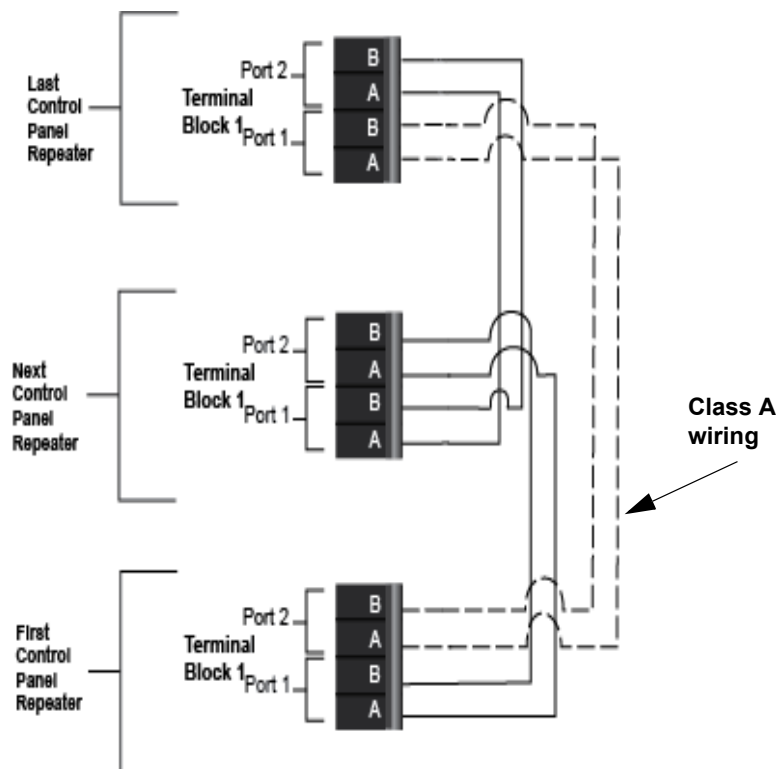
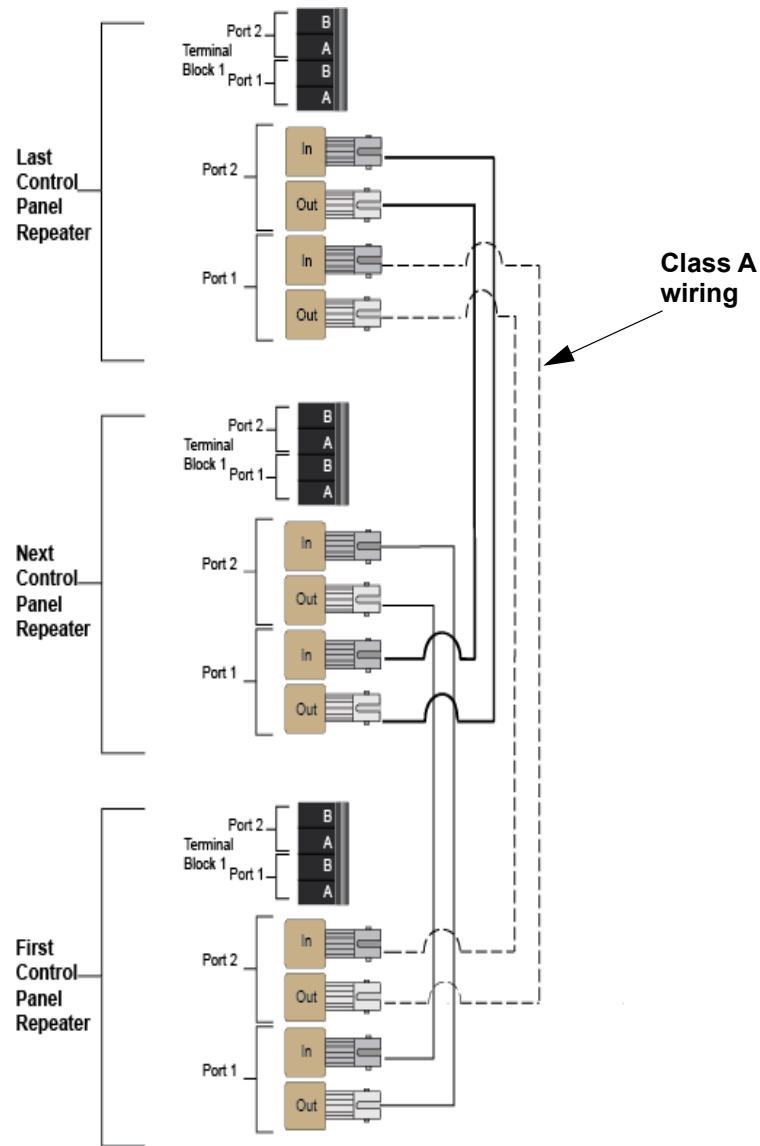
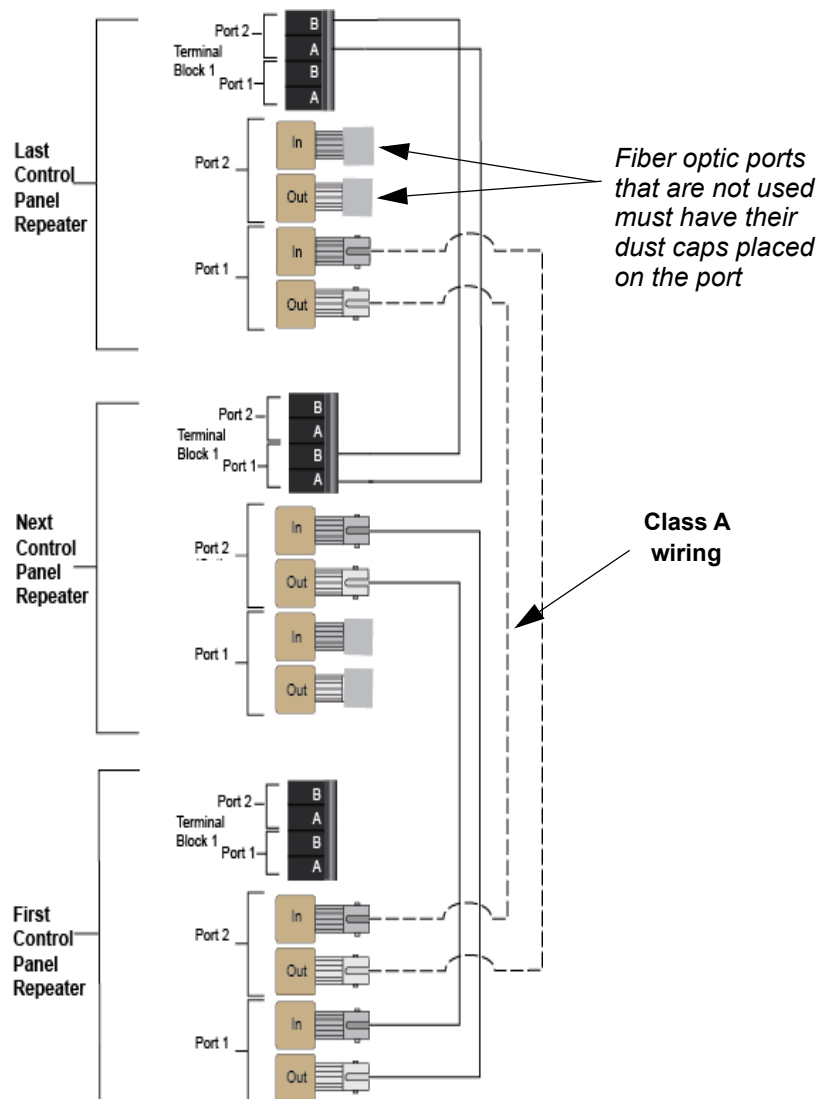
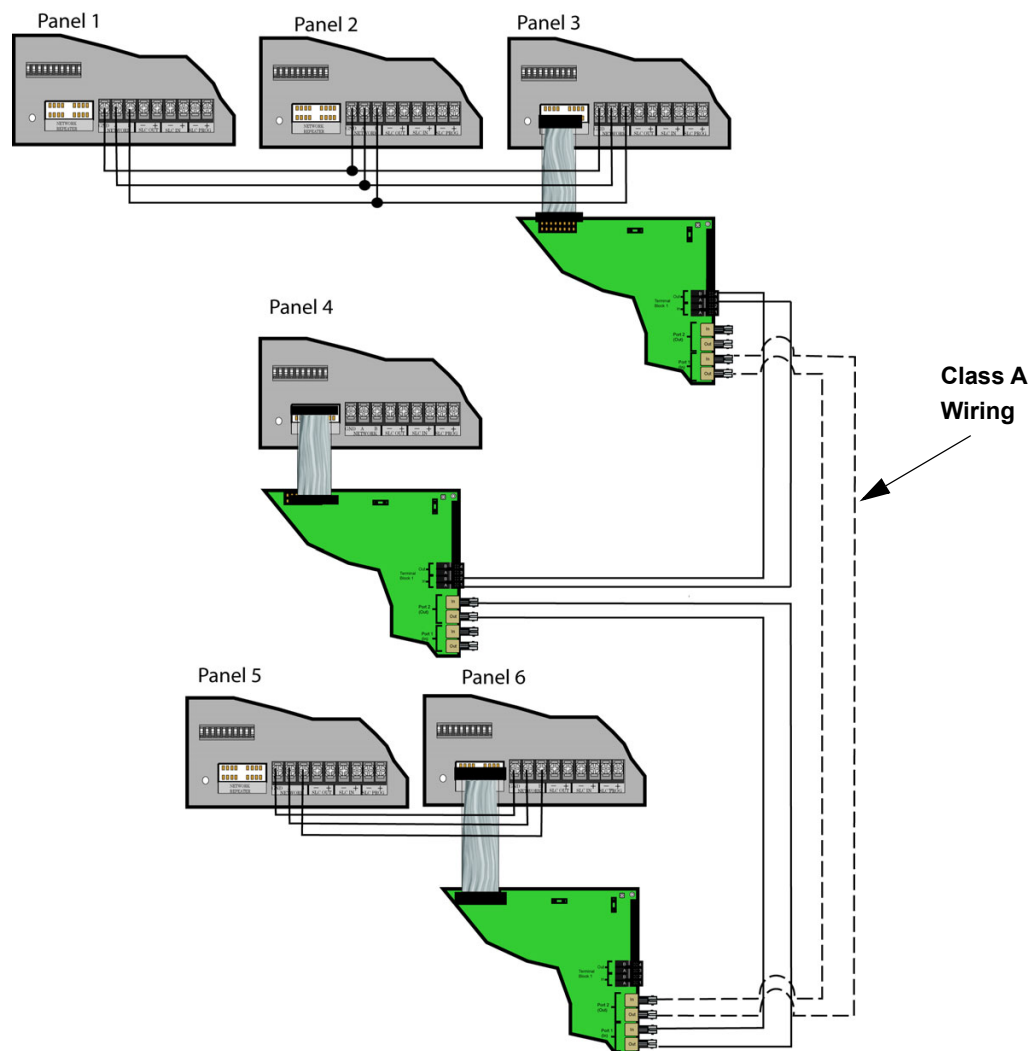

Figure 5-6 Twisted Pair Wiring Configuration
Figure 5-7 Fiber Optic Wiring Example
Figure 5-8 Twisted Pair and Fiber Optic Combination Wiring Example
Figure 5-9 Network Wiring Example Using Both Repeaters and Direct Connect Wiring
- Based on the type of network repeater board chosen, run the twisted pair wiring /fiber optic cable to the next network repeater using a BUS or style 7 (class A) wiring method. A combination of both repeater types can be used. See Figure 5-6 on page 5, Figure 5-7 on page 6, Figure 5-8 on page 7, and Figure 5-9 on page 8 for repeater wiring examples.
Unshielded twisted pair wiring between multiple panels is shown in Figure 5-6. Class A wiring is shown with a dotted line.
Fiber optic cable between multiple panels is shown in Figure 5-7 on page 6. Class A is shown with a dotted line.
A mixture of fiber optic cable and twisted pair wiring between multiple panels is shown in Figure 5-8 on page 7.
Figure 5-9 on page 8 below shows a network wiring example using both repeaters and direct connect wiring. All repeaters in the system must be placed only on panels that are at the ends of a direct connect BUS or connected to panels with no direct connect network wiring.
The following text details how the panel and repeater terminators must be set for the network example in Figure 5-9 on page 8.